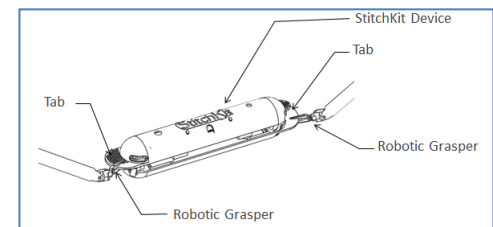

Figure 5 - Opening the StitchKit® Device using Robotic Graspers and tabs
- 5.4. Gently open the StitchKit® using the side tabs. (Figure 5)